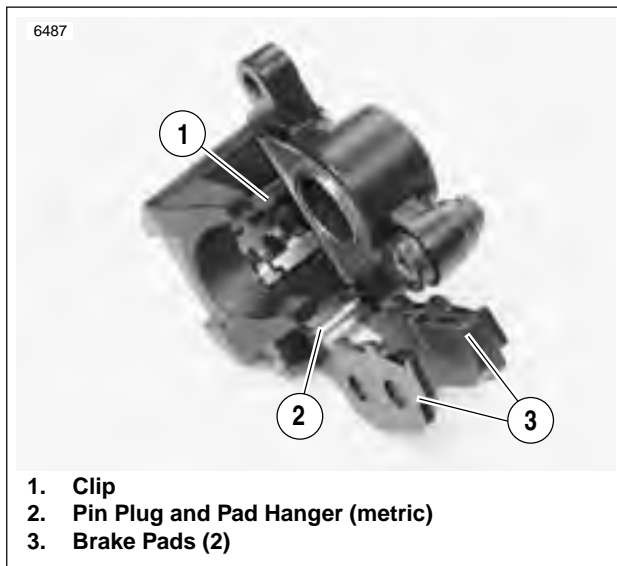

Figure 2-50. Brake Pads
- See Figure 2-50. Place clip (1) inside caliper body as shown.
- See Figure 2-50. Install brake pads (3) using pad hanger and pin plug (2).